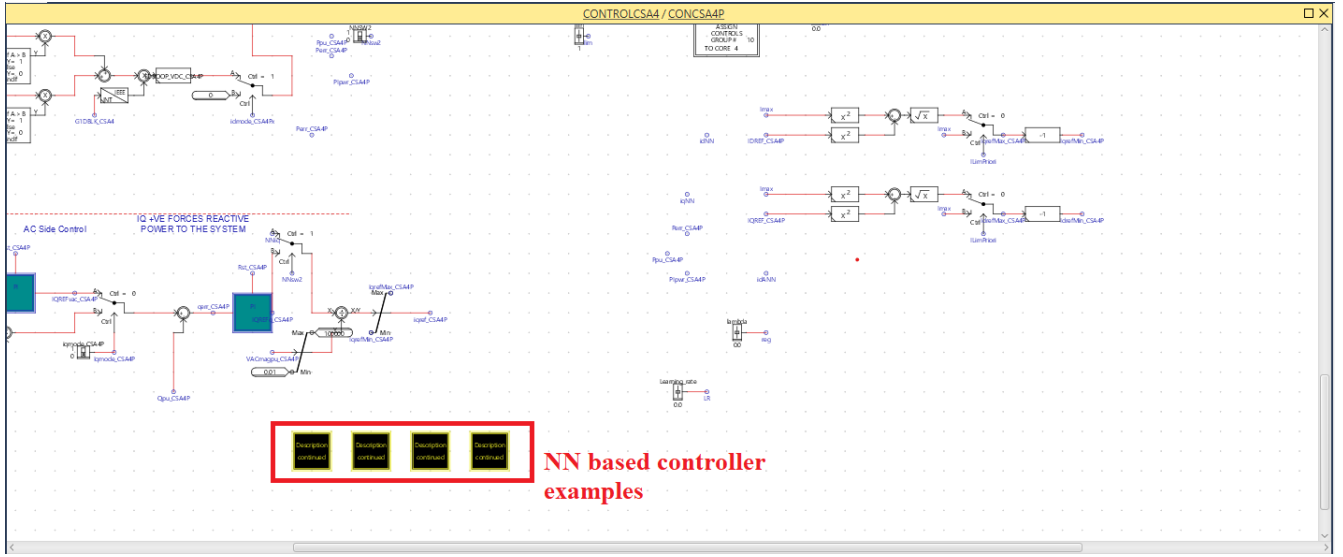

Figure 4.2: Block CSA4P.
- Step 4: CONCSAP4P window looks like in Fig. 4.2. You can notice 4 black blocks that represent already constructed (example) controllers using NNs.